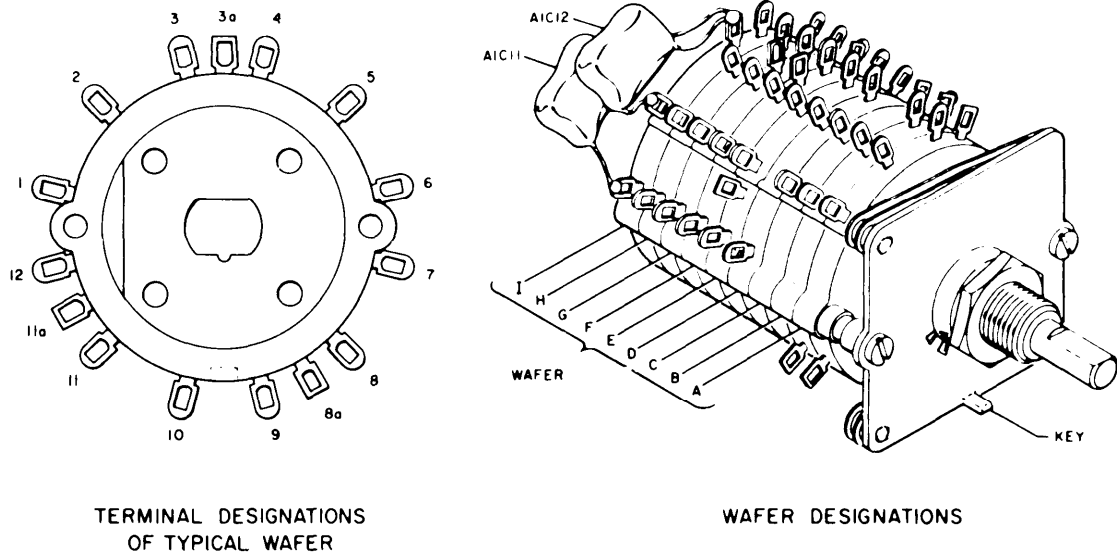

Figure 5-14. FUNCTION Switch A1S4, Wafer and Terminal Designations
(1) Perform the procedure of paragraph 5-51 to gain access to the switch.
(2) Refer to figure 5-14 for wafer and terminal designations.
(3) Disconnect the external leads from the switch in the order listed in table 5-15. Code-mark leads to insure proper reassembly.